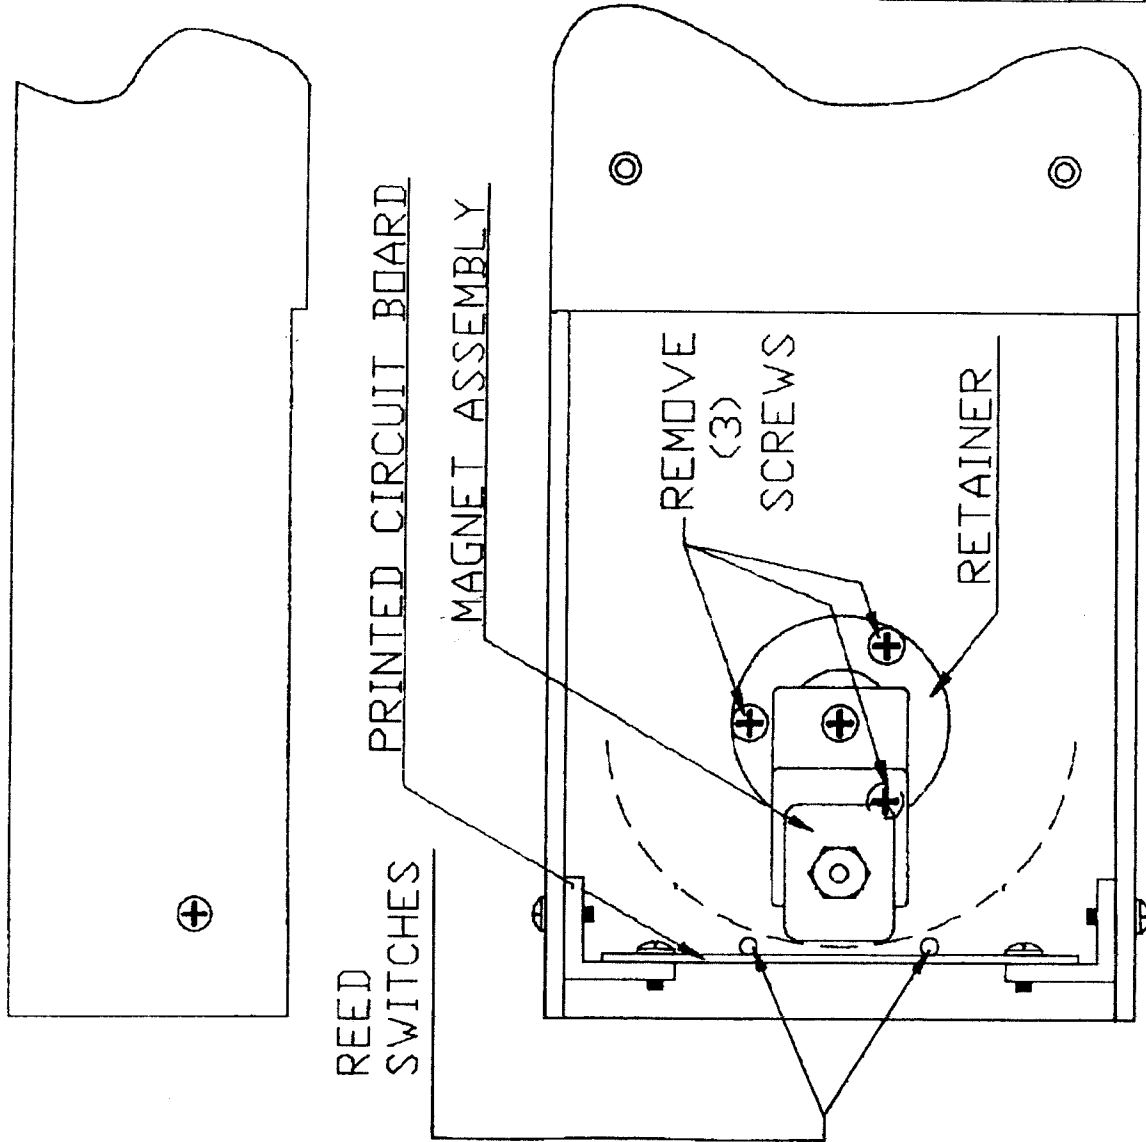

FIGURE 26
4. Under each PLATTER ARM remove DUST COVER. The DUST COVER is held by two screws on the bottom side of the PLATTER ARM. With the DUST COVER removed the PRINTED CIRCUIT BOARD and MAGNET ASSEMBLY will be exposed. Figure 26.
5. The MAGNET ASSEMBLY is held in place with (3) three screws. Remove these screws from the RETAINER that holds the MAGNET ASSEMBLY in place. Pull the entire MAGNET ASSEMBLY from the bottom side of the PLATTER ARM. If the upper bearing sticks, push the bearing out the top from underneath.